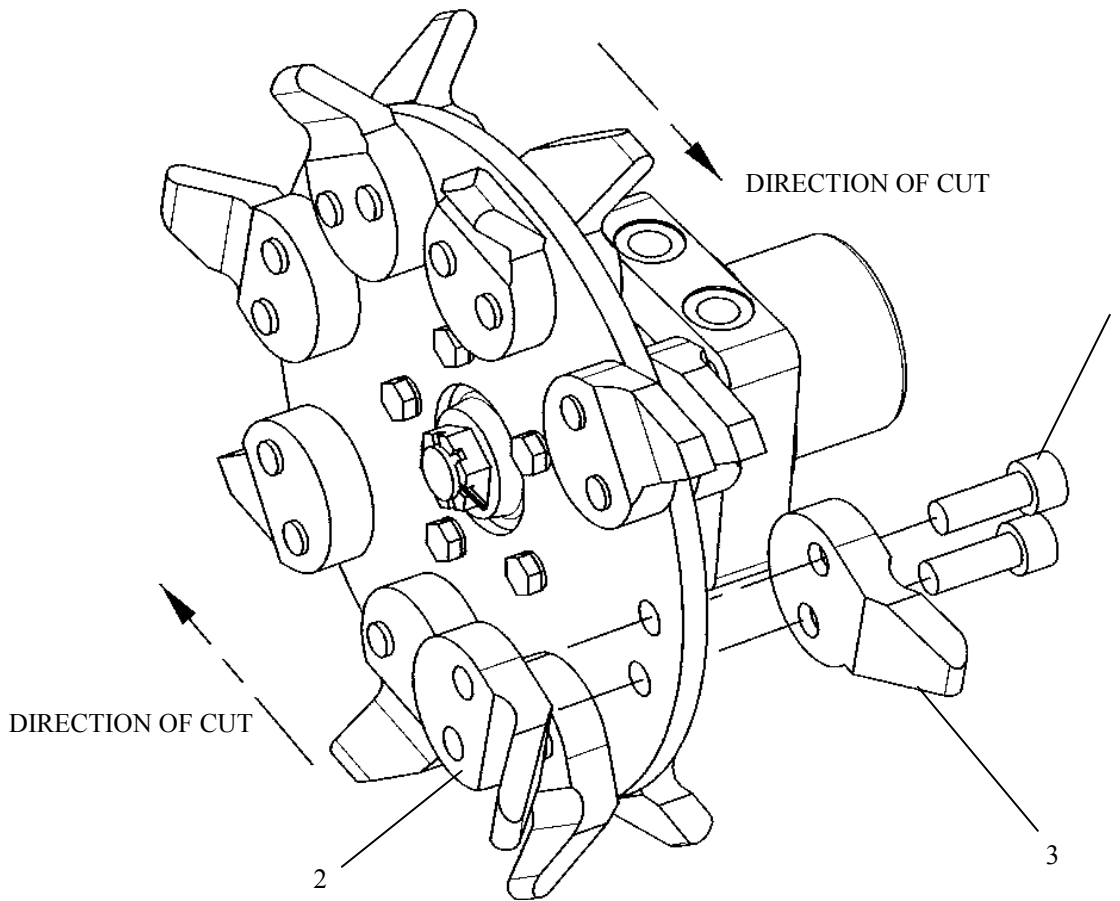

Figure 1 Replacing Cutting Teeth
2. Remove the two, 5/8 socket head cap screws (1). Note that both the threaded tooth (2) and non-threaded tooth (3) are now free.
4. **NOTE:** make sure teeth are installed in the orientation as shown in figure 1.